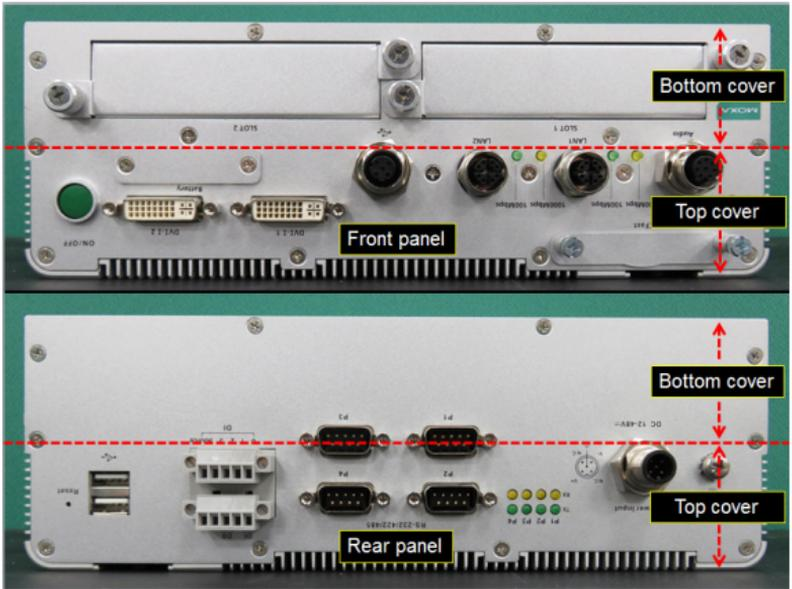

Figure 1
4.1.1 Place the V2426A upside down on the working area as shown in Figure 1.